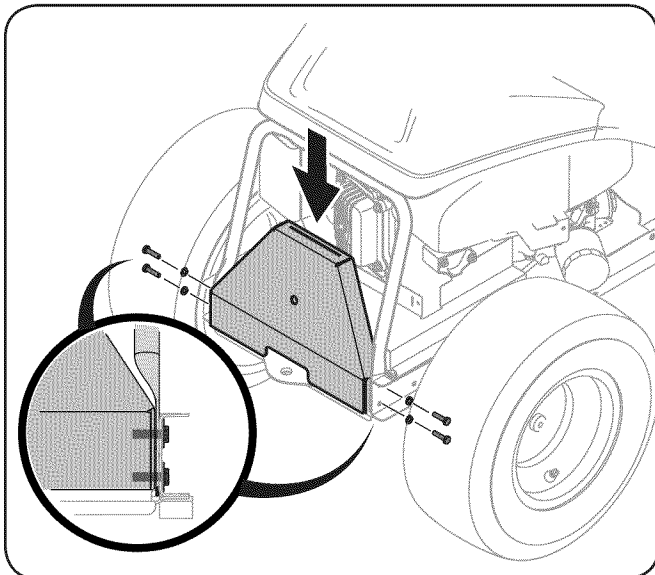

Figure 2
2. Install the bagger mounting bracket on the tractor, using four 710-3296 hex bolts from hardware pack 683-05063. Feed each hex bolt through the tractor frame, the rear hood mounting tube, and thread into the weld-nut on the bagger mounting bracket, as shown in Figure 2.